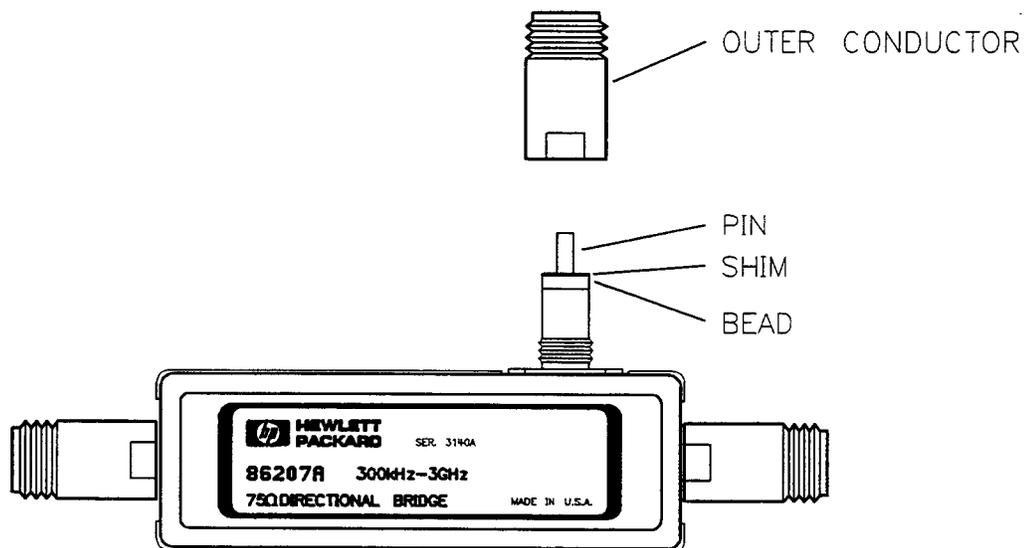

Figure 5-2. Shim Placement in the Connector Assembly
2. Look for a shim that is in the outer conductor or resting on the bead. (Not all connector assemblies require a shim.) If there is a shim, set it aside. Refer to Figure 5-2.
If the pin depth is out of tolerance (>0.207 in), insert a shim in the connector assembly by removing the outer conductor and placing a shim as shown in Figure 5-2.